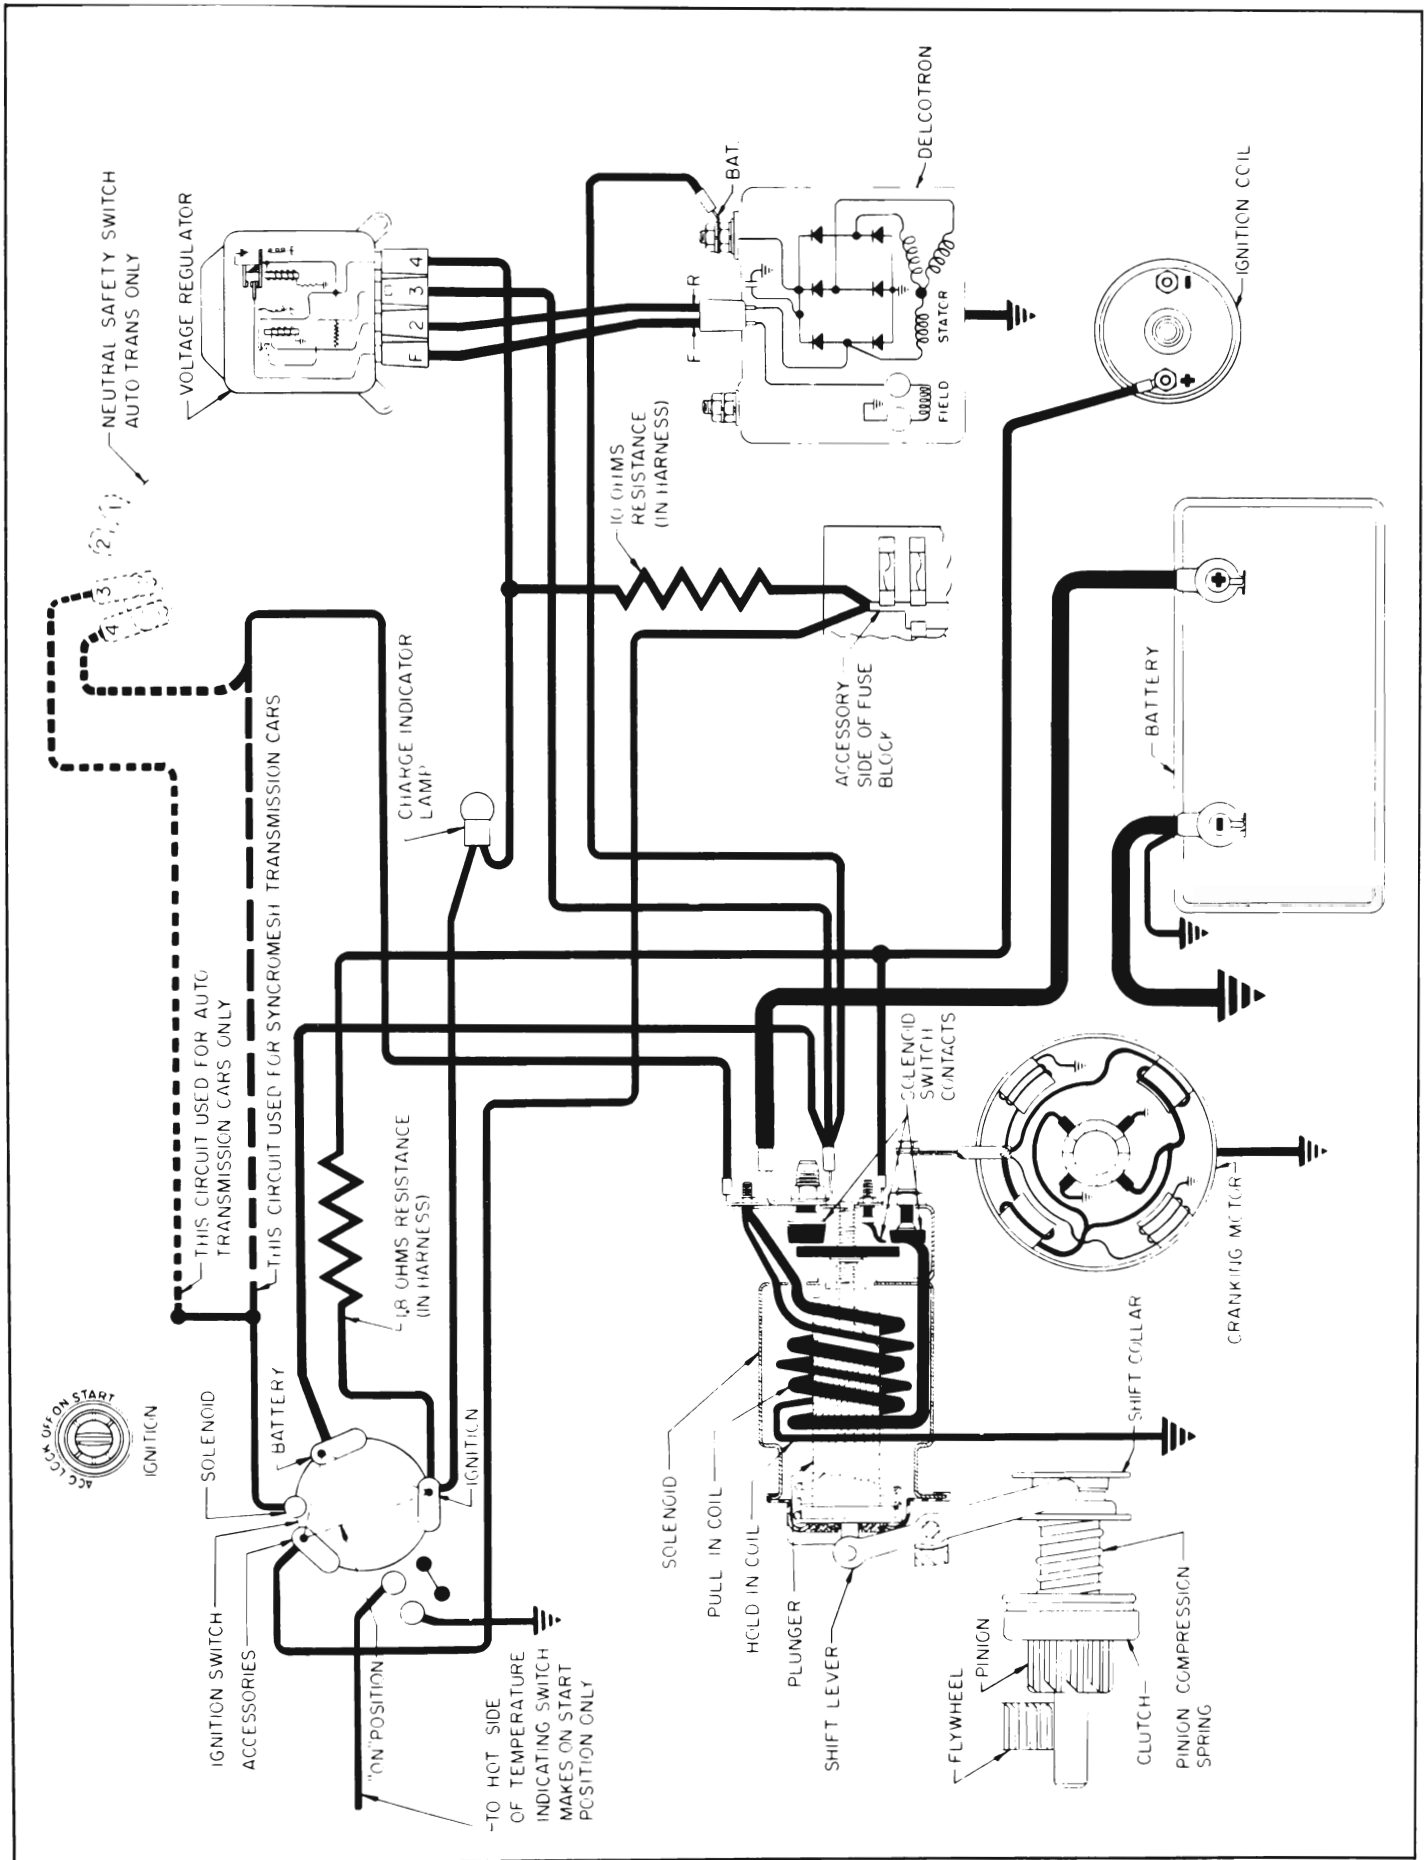

Figure 10-24—Starter and Generator Circuit Diagram - 45 Series
The cranking system, shown schematically in Figure 10-24, is composed of the following units:
possible gear clash. See Figure 10-24.
The closing of the solenoid switch contacts causes the motor to crank the engine and also cuts out the "pull-in" coil of the solenoid, the magnetic pull of the "hold-in" being sufficient to hold the pinion in mesh after the shifting has been performed. This reduces the current consumed by the solenoid while the cranking motor is operating. See Figure 10-24.
4. Slowly adjust resistance until voltmeter reads 10 volts and note ammeter reading. This shows current draw of both windings in parallel, and should be 41 to 47 amperes (large starter) or 42 to 49 amperes (small starter). See Figures 10-24 and 25 for diagrams of solenoid circuits.